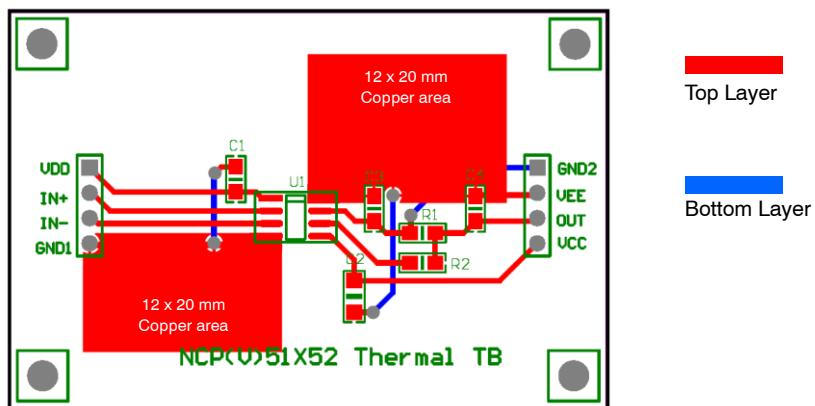

Figure 4. Reference Layout for the Type-A
7. As specified for a reference layout shown in Figure 4. The DUT is mounted on a 60 x 40 x 1.6 mm FR4 substrate with an additional heat spreading copper of 240 mm2/300 mm2 (Primary/Secondary). The copper thickness is 1 oz and test conditions is under natural convection or zero air flow.